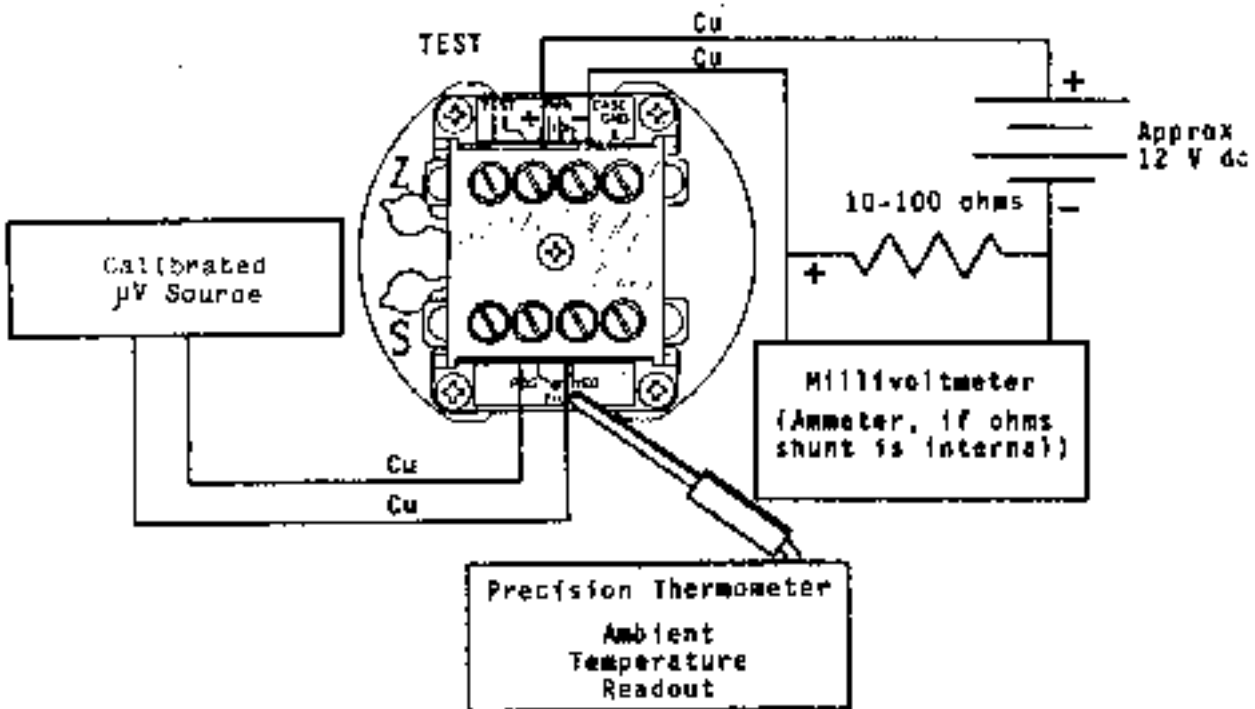

Figure 5-1 Calibration Setup Using Ambient Temperature
5. Refer to Figure 5-1 and connect the transmitter to the power supply, microvolt source, current shunt, and milliammeter. Place the temperature probe as close as possible to the 502A-J input terminals. **Better calibration stability is obtained if the electronic assembly is configured while in the case.**
5. Refer to Figure 5-1 and connect the transmitter to the power supply, microvolt source, current shunt, and milliammeter. Ensure that the copper wires from the millivolt source and the thermocouple wires from the 502A-J are soldered together and immersed in the ice bath. **Better calibration stability is obtained if the electronic assembly is configured while in the case.**